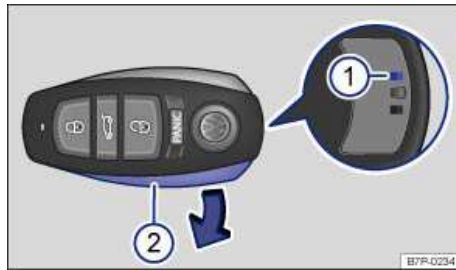

Fig. 24 Removing battery cover from the remote control vehicle key.
The battery is in the remote control vehicle key under a cover ⇒ fig. 24. When changing the battery, pay attention to the correct polarity and use the same type of battery ⇒ ⌚.
- Insert the thin left side of the cover ⇒ fig. 24 \(2\) in the remote control vehicle key and press the thick right side down until the cover locks into place.